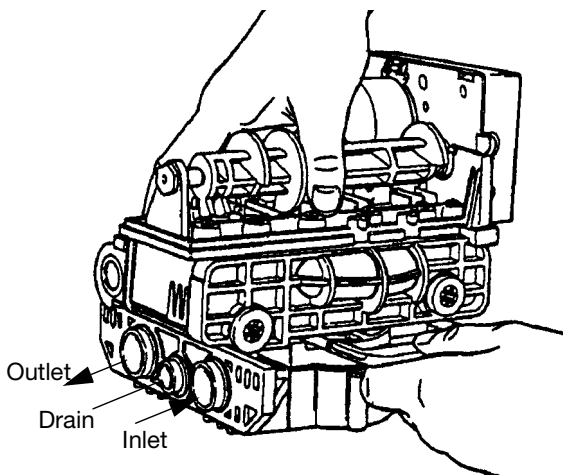

Figure 8
5. Apply downward hand pressure on the valve and pull the locking bar out (Figure 8).